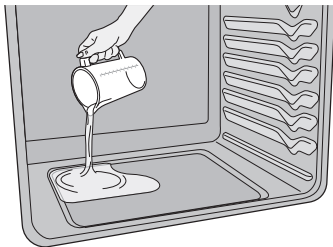

Figure 17: Add 1 cup of tap water
3. Pour 1 cup of tap water onto the oven bottom. (Figure 17) Close oven door.